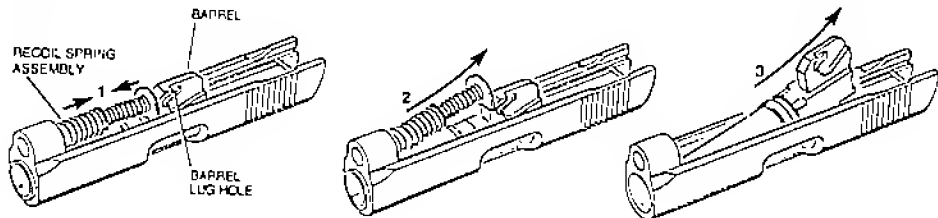

FIGURE 11—REMOVING BARREL
4. Take up tension of recoil springs by pinching together (step #1) as shown, then lift (step #2) springs and recoil spring guide up and out of the slide. (See Figure 11).
3. From the rear, push the recoil spring guide through the hole in the front of the slide and keep pushing it until the spring is fully compressed. It may be necessary to pinch the recoil springs together as shown in Figure 11. Step #1 to assemble them into place.